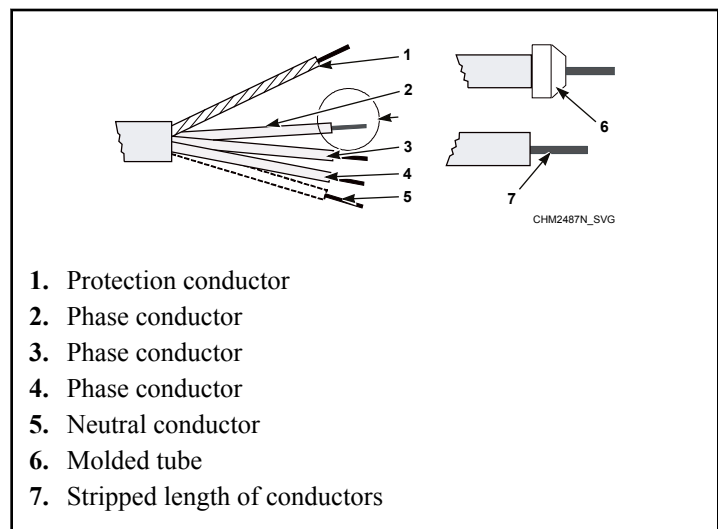

Figure 25
- Strip the conductor ends. Refer to *Figure 25*. The protection conductor must be longer so it can be routed to the machine without tension.